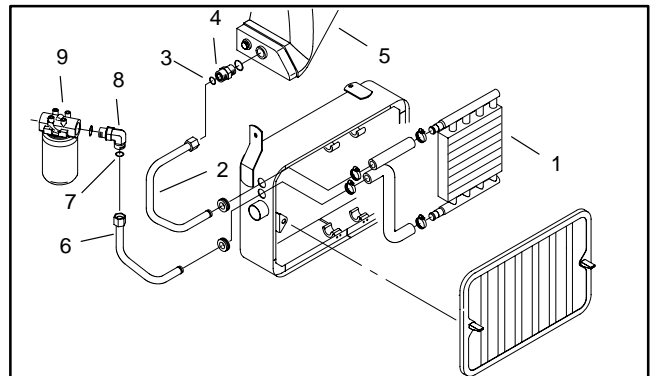

Figure 30
B. Open drain petcock (38) on the back of the radiator. Drain radiator completely and close petcock.
7. Disconnect hydraulic oil cooler if installed (Fig. 30).